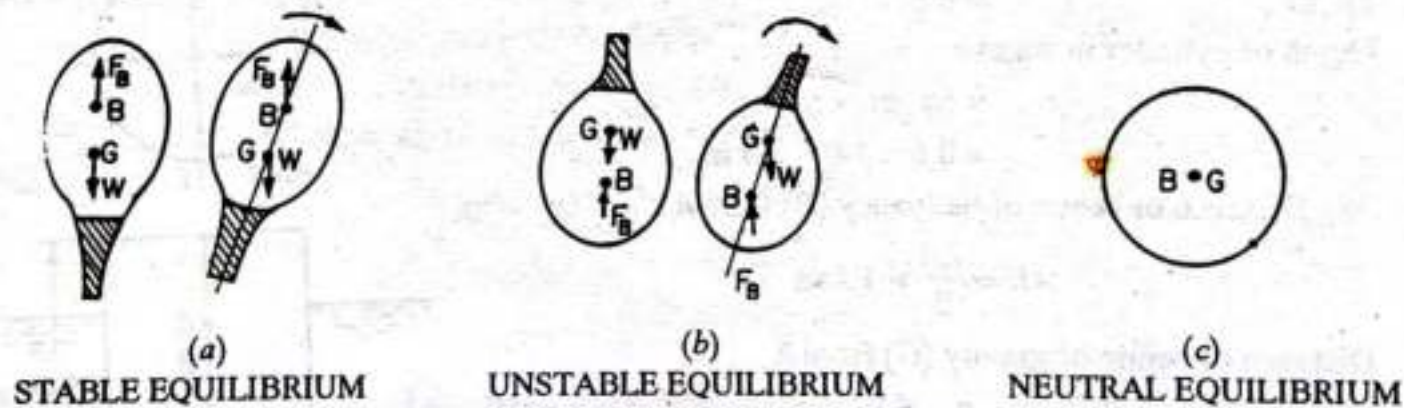

Fig. 4.12. Stabilities of sub-merged bodies.
**4.7.1. Stability of a Sub-merged Body.** The position of centre of gravity and centre of buoyancy in case of a completely sub-merged body are fixed. Consider a balloon, which is completely sub-merged in air. Let the lower portion of the balloon contains heavier material, so that its centre of gravity is lower than its centre of buoyancy as shown in Fig. 4.12 (a). Let the weight of the balloon is  $W$ . The weight  $W$  is acting through  $G$ , vertically in the downward direction, while the buoyant force  $F_B$  is acting vertically up, through  $B$ . For the equilibrium of the balloon  $W = F_B$ . If the balloon is given an angular displacement in the clockwise direction as shown in Fig. 4.12 (a), then  $W$  and  $F_B$  constitute a couple acting in the anti-clockwise direction and brings the balloon in the original position. Thus the balloon in the position, shown by Fig. 4.12 (a) is in stable equilibrium.
**(b) Unstable Equilibrium.** If  $W = F_B$ , but the centre of buoyancy ( $B$ ) is below centre of gravity ( $G$ ), the body is in unstable equilibrium as shown in Fig. 4.12 (b). A slight displacement to the body, in the clockwise direction, gives the couple due to  $W$  and  $F_B$  also in the clockwise direction. Thus the body does not return to its original position and hence the body is in unstable equilibrium.
**(c) Neutral Equilibrium.** If  $F_B = W$  and  $B$  and  $G$  are at the same point, as shown in Fig. 4.12 (c), the body is said to be in Neutral Equilibrium.